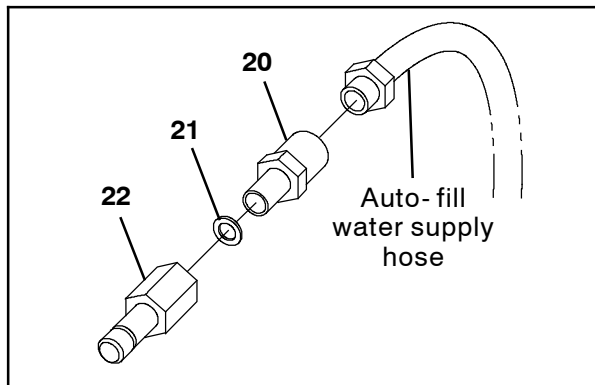

FIG. 5
31. Thread the brass garden hose fitting (20) onto the hose to be used to supply water to the machine auto-fill system. (Fig. 5)
32. Insert the rubber washer (21) into the brass QDC fitting (22). (Fig. 5)
33. Thread the brass QDC fitting (22) onto the brass garden hose fitting (20). (Fig. 5)